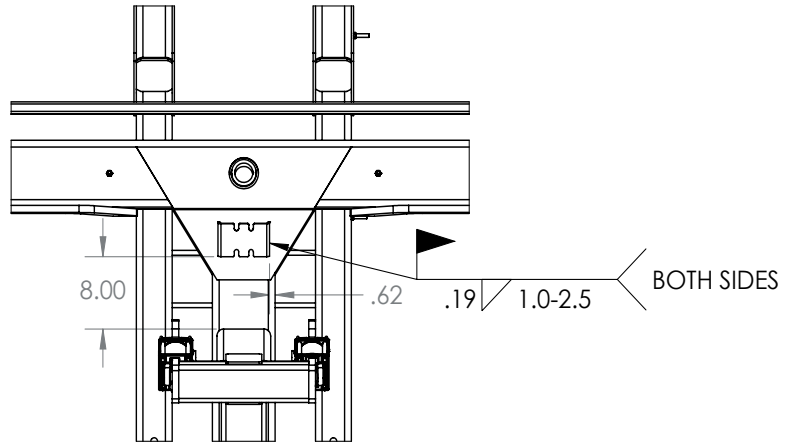

Figure 3: Downpressure Valve Mount Plate Location
3. If not already present on machine, weld downpressure valve mount plate (2) to mainframe behind lift cylinder tower as shown in figure 3. Weld two 1" welds along each outside edge.
4. Install downpressure valve (1) to mount plate (2) using 3/8"-16 x 3" bolts (8), 3/8" washers (9), and 3/8" nuts (10).
5. Install 9/16" o-ring to JIC 45° elbows (4) to front ports of downpressure valve (1).
6. Connect 1/4" wing cylinder hoses leading to front couplers to 45° elbows (4) in front ports of downpressure valve (1).
7. Install 9/16" o-ring to JIC adapters (6) in rear ports of downpressure valve (1).
8. Attach tee fitting (9) to orifice fitting on "REG" port and connect hoses leading to base end of inner wing cylinder.
9. Attach tee fitting (9) to adapter (13) on "T" port and connect hoses leading to rod end of inner wing cylinder.
10. Install 9/16" o-ring to female NPT adapter (5) to top port of downpressure valve (1).
11. Screw pressure gauge (7) into adapter (5).